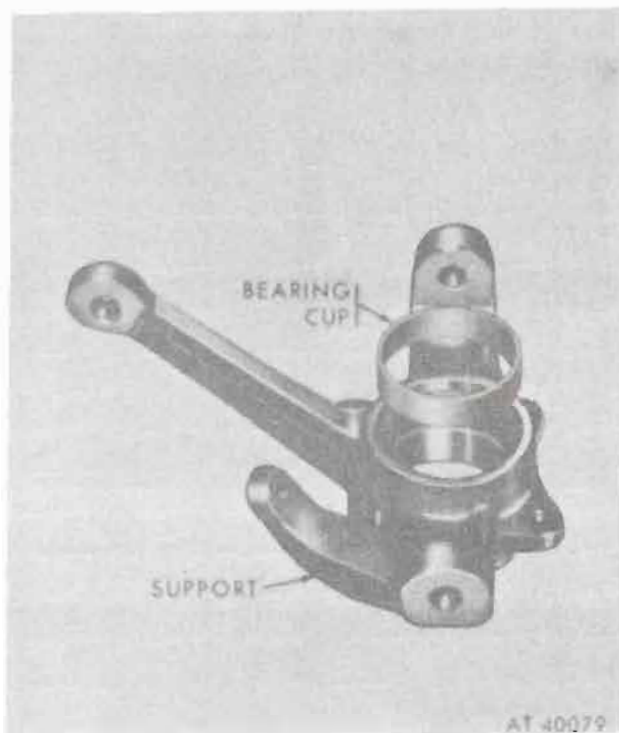

Figure 10-56. Spindle support, inner bearing cup.
a. Position inner bearing cup in spindle support (fig. 10-56).